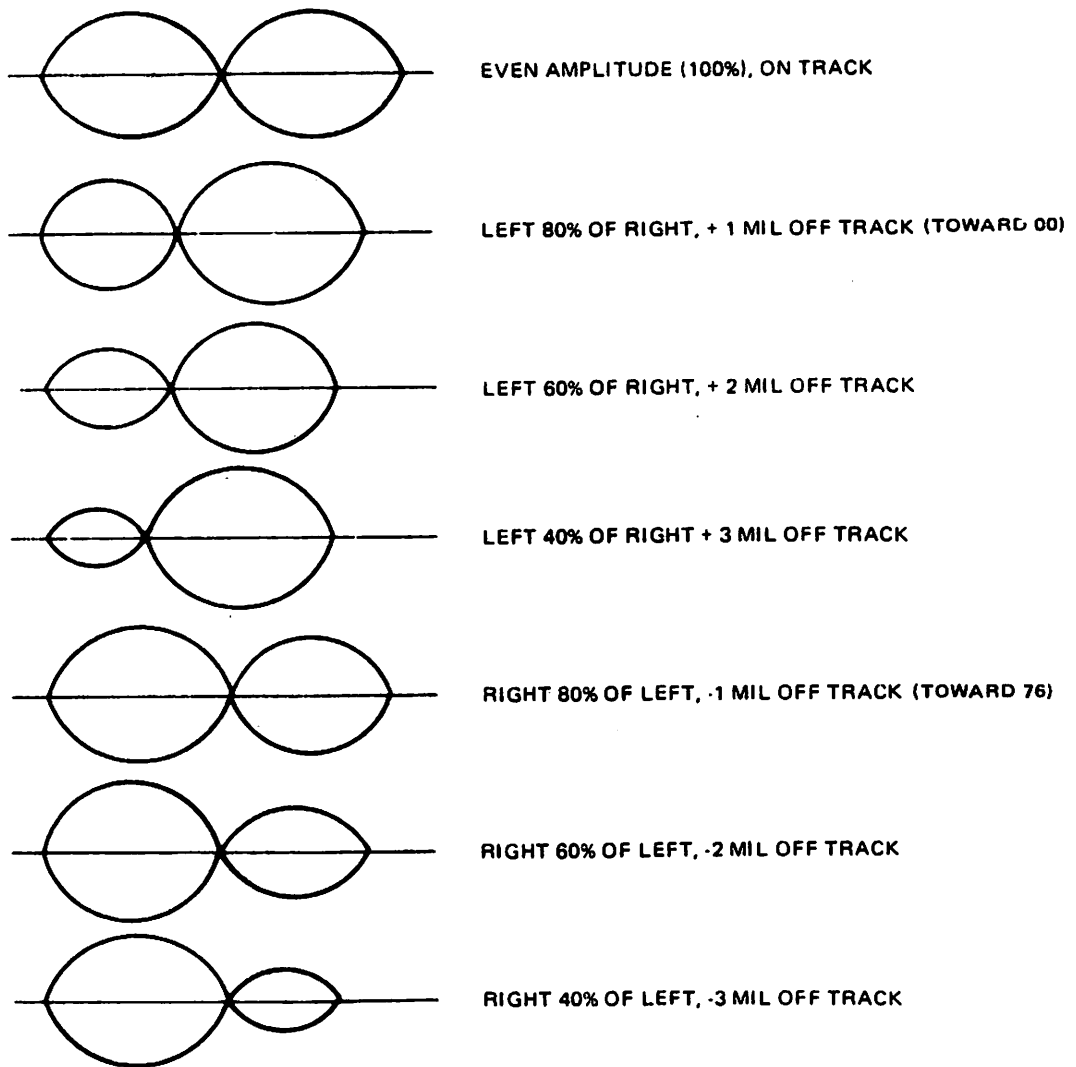

FIGURE 8 R/W HEAD RADIAL ALIGNMENT
- e. The two lobes must be within 80% amplitude of each other (Ref. Figure 8). If the lobes do not fall within the specification, continue on with this procedure. If correct proceed to Section 7.6.